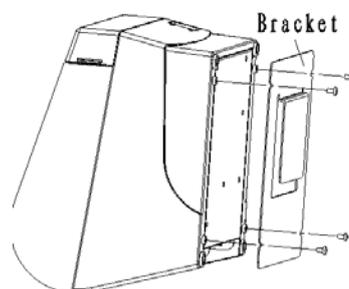

Figure N.2.3
- 3) Close the top cover of the printer and mount the Bracket-Plate on the bottom of the printer with the four screws (Ø 2.9 mm x 8 mm) as shown in figure N.2.3. The four screws are supplied with the set.